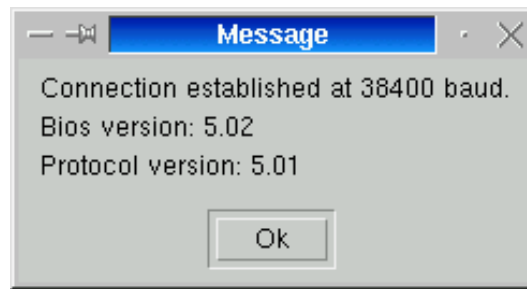

Figure 2.14: Successful serial connection
- A popup window should inform you that everything goes right as depicted in figure 2.14.